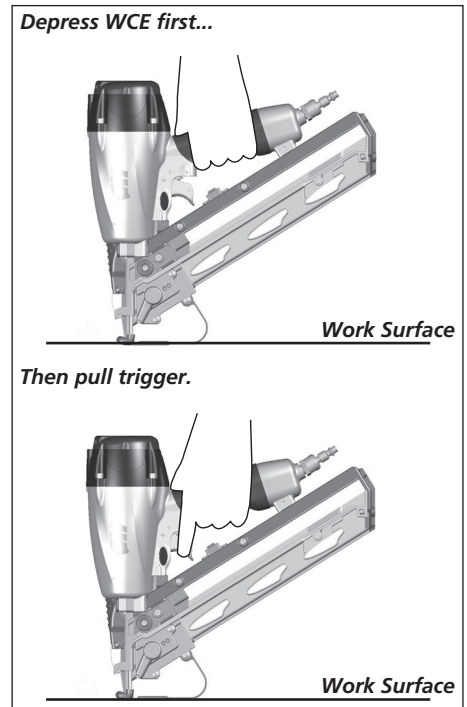

Figure 14 - Sequential Mode
**Sequential Mode (See Figure 14)**